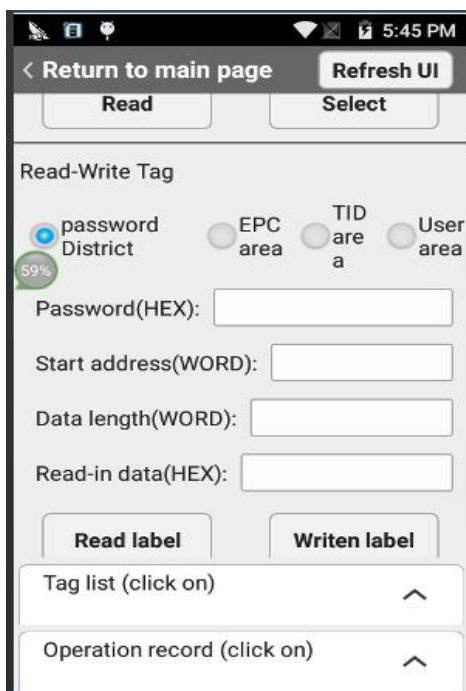

Figure 5.0
2.1 Click icon 'Tag test', choose option 'Access Label', then we can read and write any area and block data information as figure 5.0.